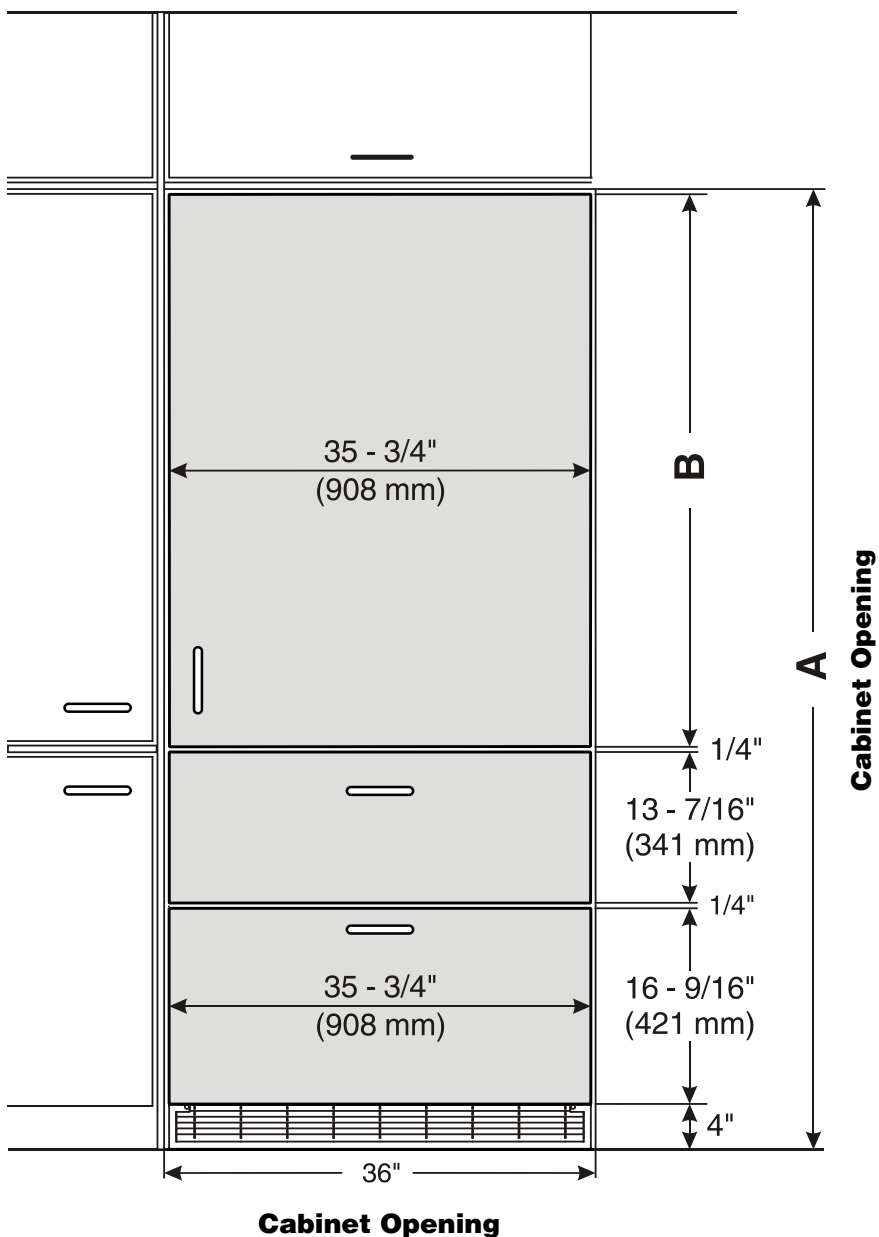

Figure 5
## Panel Dimensions - Framed Cabinet Design - Figure 5
2. Drill a 3/8" diameter hole in any position as shown in **Figure 5** using a carbide drill bit.